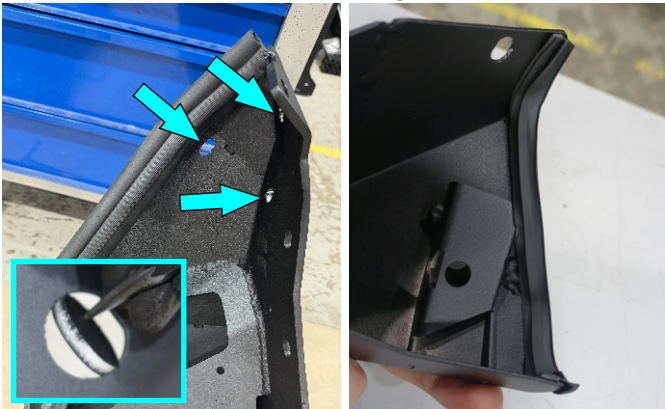

Fig.53
53. Hammer out 3 plugs on each side (fig. 53). Stick the weatherstrip to fender flares (fig. 54).